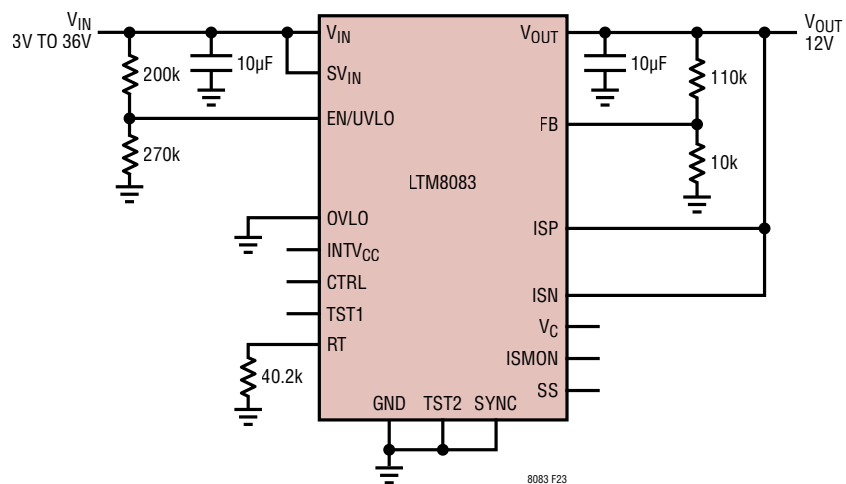

Figure 23. 18W (12V, 1.5A) 1MHz Buck-Boost Voltage Regulator
**Table 6. Output Voltage Response vs Component Matrix (Refer to Figure 23)**